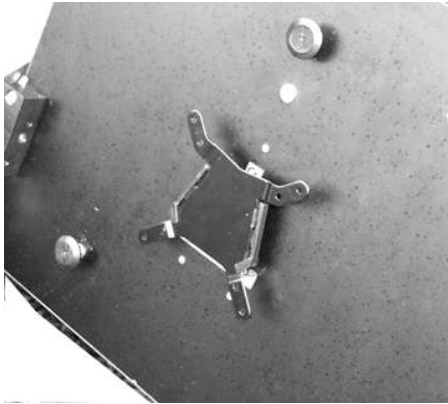

Figure 1
The **VESA Bracket** is shipped mounted to the **VESA Mounting Plate** on the **Rotating Desktop Panel** (Fig. 1). Pull the 2 locking arms out to the sides from the top of the bracket to release. (Fig. 2) Slide the VESA Bracket up and off the VESA Mounting Plate (Fig. 3). Remove the (4) 4mm machine screws attached in a bag to the back of the Rotating Desktop Panel.